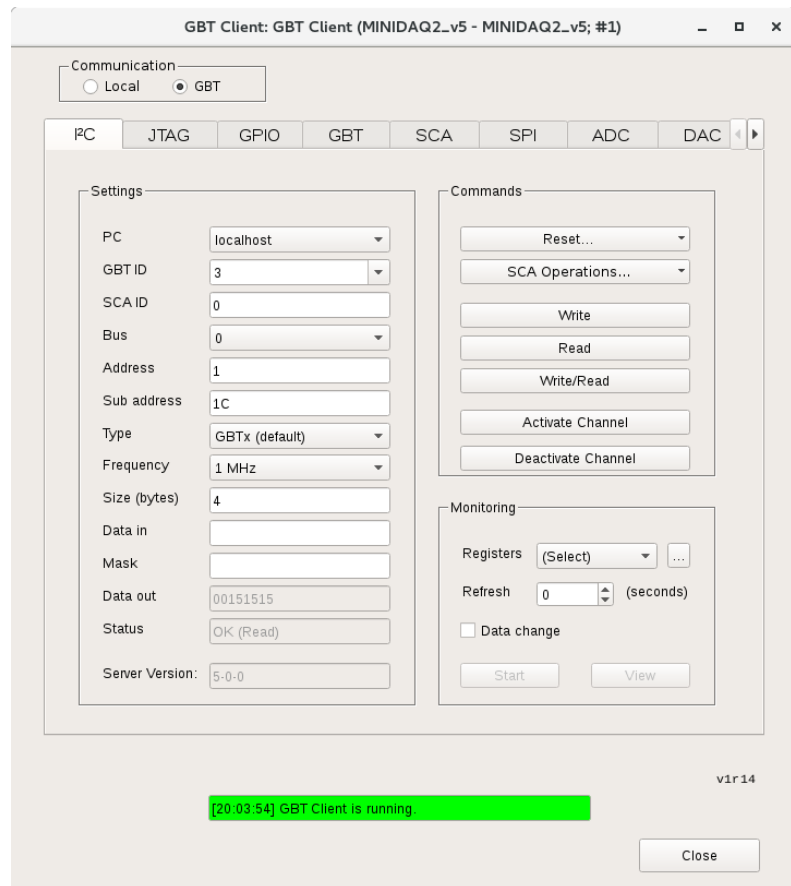

Figure 7: Correct parameters to configure GBT I²C tab.
Before proceed, follow subsection 1.3 to set up hardware. Again we use **GBT Client** to program individual registers of the slave GBTx. Configure the parameter *exactly* as shown in Figure 7.
- 15_{16} is exactly the last 3 bytes in **Data out** field in Figure 7. This is not a coincidence.